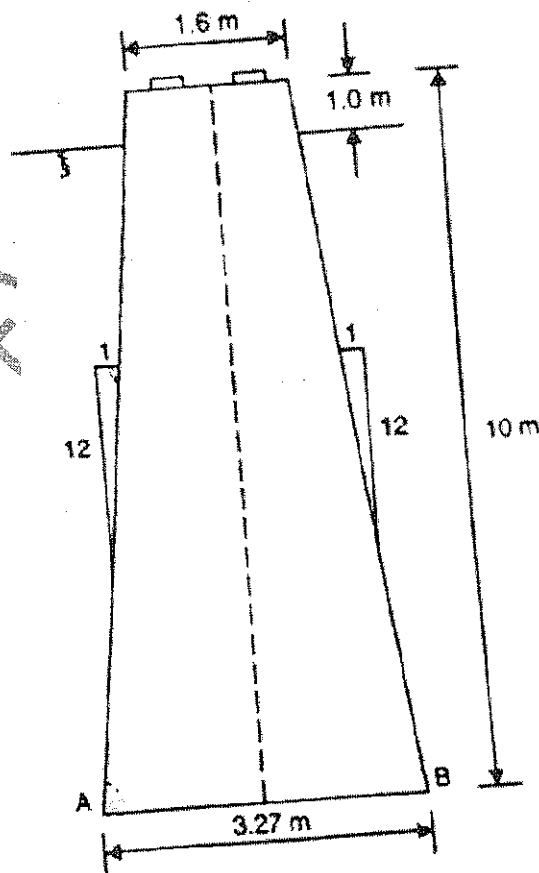

Figure-2
Q.3. Verify the adequacy of the dimensions of the pier shown in Figure-2. The following details are available.